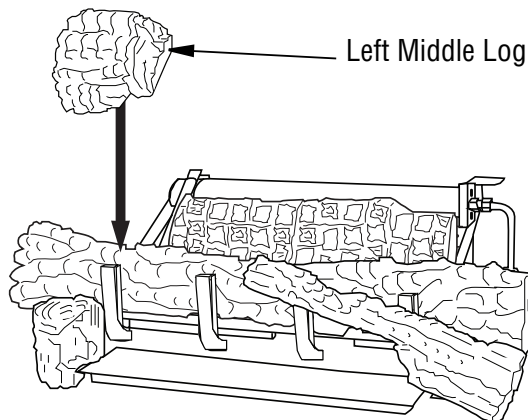

Figure 34 - Installing Left Middle Log
- The left middle log has a groove on the bottom to sit on the chassis and has to sit on the tab on the back of the left front log as shown in **Figure 34**.